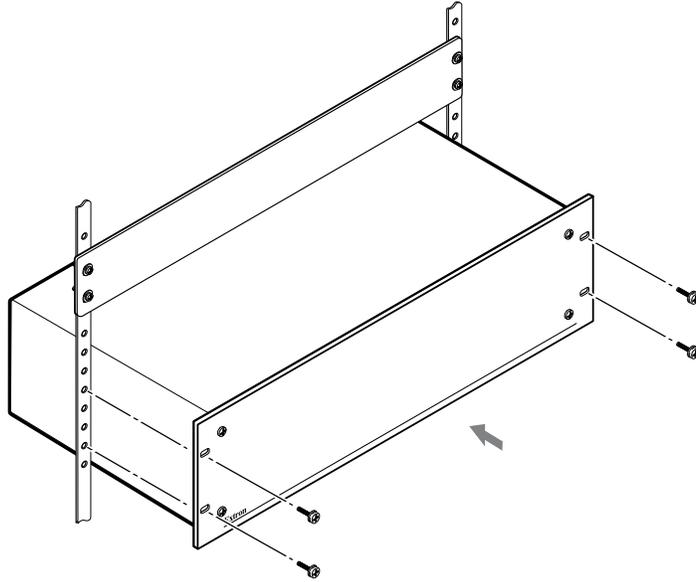

Figure 2-1 — Installing the switcher in a rack
The following Underwriters Laboratories (UL) guidelines pertain to the installation of the matrix switcher into a rack (figure 2-1).
1. Insert the switcher into the rack, aligning the holes in the mounting bracket with those in the rack (figure 2-1).